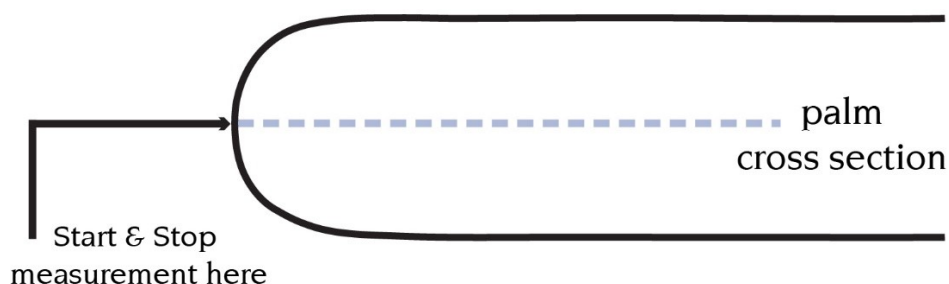
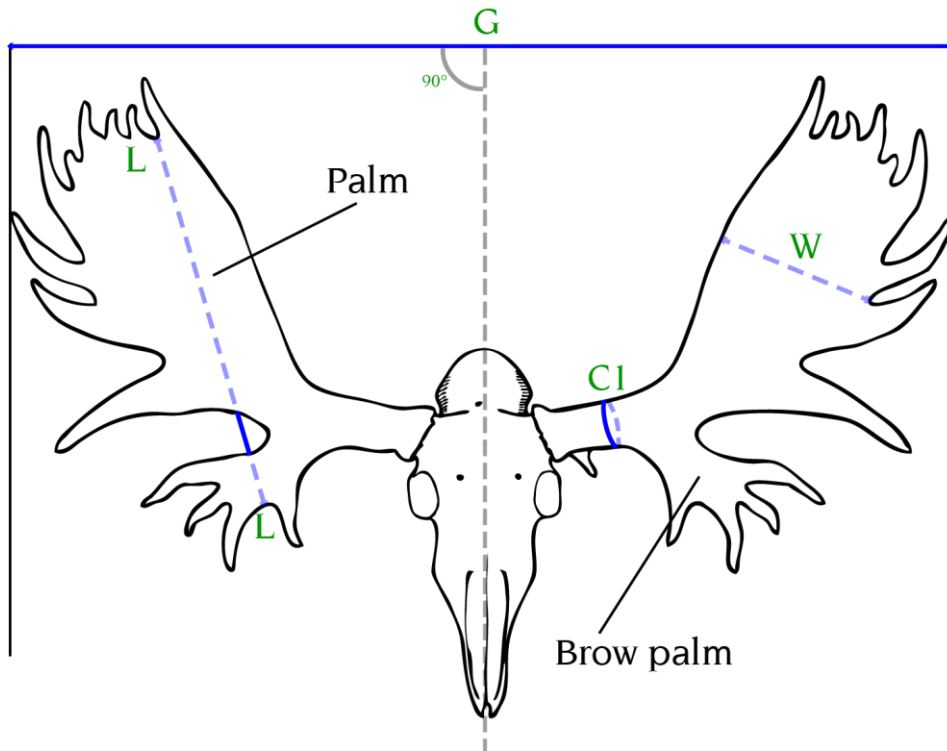

Figure 1
Figure 2 (front view)
1. Palm Length. Turn the head over and mark points off with paper masking tape and a pencil. Measure the length of each palm along the outer curve (underside) from the highest point on the upper edge to the lowest point on the lower edge (Figure 2 and 3: L). Note that the tape may not bridge an air gap on the inside edge of the palm. In those cases where the brow palm forms a “peninsula” as it does with many North American moose (less often in Asian varieties) measure over an air bridge between the palm and the brow palm. (Figure 2, L) Start the palm measurement between two tines or knobs (they do not have to be valid tines) at the top end of the palm and measure the palm as close to parallel as possible to the inner edge of the palm. End the measurement on the front end of the brow palm between two tines. Start and end the measurement on the edge halfway between the top and bottom of the palm. (Figure 1) Keep the tape in contact with the underside of the palms at all times. Should you encounter protrusions or tines that will significantly expand the palm measurement, stop the tape at the base of such a tine/protrusion and continue on the other side. Take a linear measurement with calipers from one side of the base of the tine to the other and add this to the total palm length so that the final measurement will be as though the tine were absent.
2. Circumference. Measure the circumference of each main antler beam at the smallest point between the burr (coronet) and the palm. (Figure 2, C1) In some cases there may be “pearling” growth formations and even small tines; avoid these and be sure to find the smallest circumference. Take this measurement at a 90-degree angle to the antler beam.
1. Palm Width. Measure the width of each palm along the underside at the widest place. (Figures 2 and 3, W). Start the palm width measurement between two tines or knobs (they do not have to be valid tines) at the outside of the palm and measure the width at a 90-degree angle to the axis of the inner edge of the palm. Start and end the measurement on the edge halfway between the top and bottom of the palm. (Figure 1)
3. Spread. Measure the greatest spread of the antlers in a straight line at a 90-degree angle to the axis of the skull (Figure 2, G). The easiest way is to lay the antlers upside-down on a smooth, flat surface such as a concrete floor, and then place two triangle squares (a triangle-shaped device made of hard plastic or metal with wide rims that can stand up straight) on both ends of the antlers. Make sure that both triangles are in alignment and at a 90-degree angle to the axis of the skull. Mark with a pencil where the triangle squares reach the concrete floor (both sides), push the antlers and triangles away, and measure the distance between the two marks. Do not measure from a wall above the antlers and skull to a single triangle square because an air measurement may lead to a tape measure sagging, and this will increase the score.